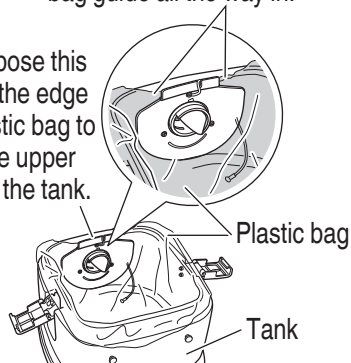

Fig. 13
- (2) Insert the plastic bag between the inside of the tank and the bag guide.
- Insert the bag first along the bottom of the bag guide and then on both sides. (see Fig. 13)
- (3) After spreading the plastic bag along the inside of the tank, draw the end of the plastic bag outside the tank. Following the directions on page 47 “Attaching the filters”, insert the filter and the filter cage.
- The edge of the plastic bag on the air intake should not extend out of the top of the tank. (see Fig. 13)